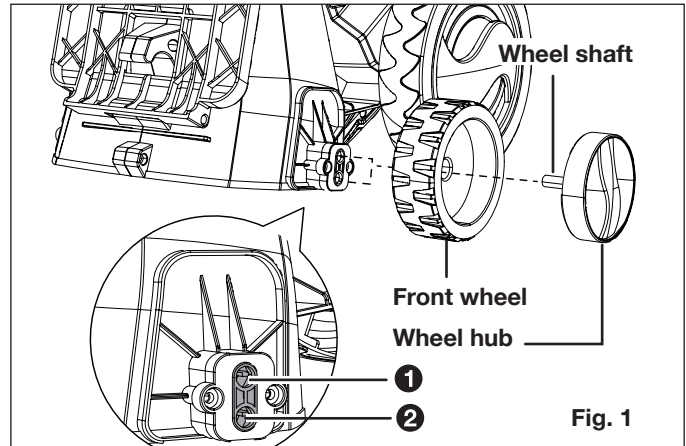

Fig. 1
1. Assemble the front wheel with the wheel hub as shown below. Insert the shaft of the wheel hub into one of the holes located on the side of the vacuum chute, and rotate the wheel hub clockwise until it cannot be rotated anymore (Fig. 1).